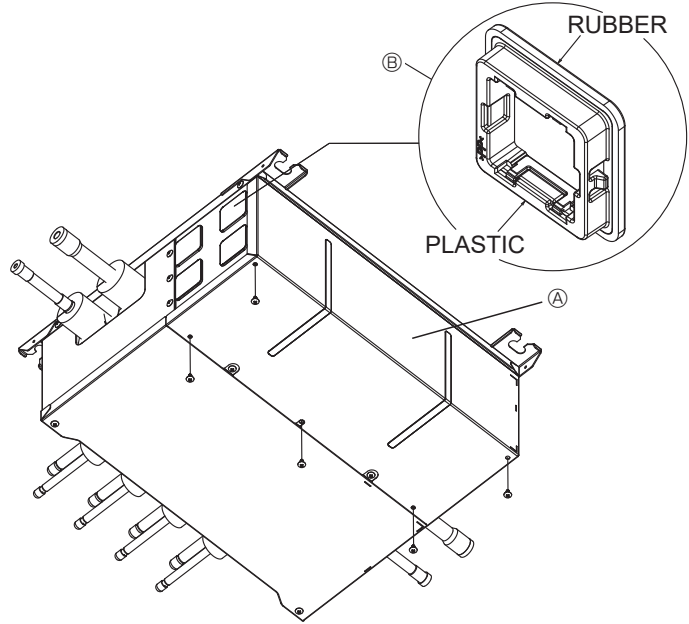

Fig. 7-1
- (1) Remove the electric cover. (Fig. 7-1)